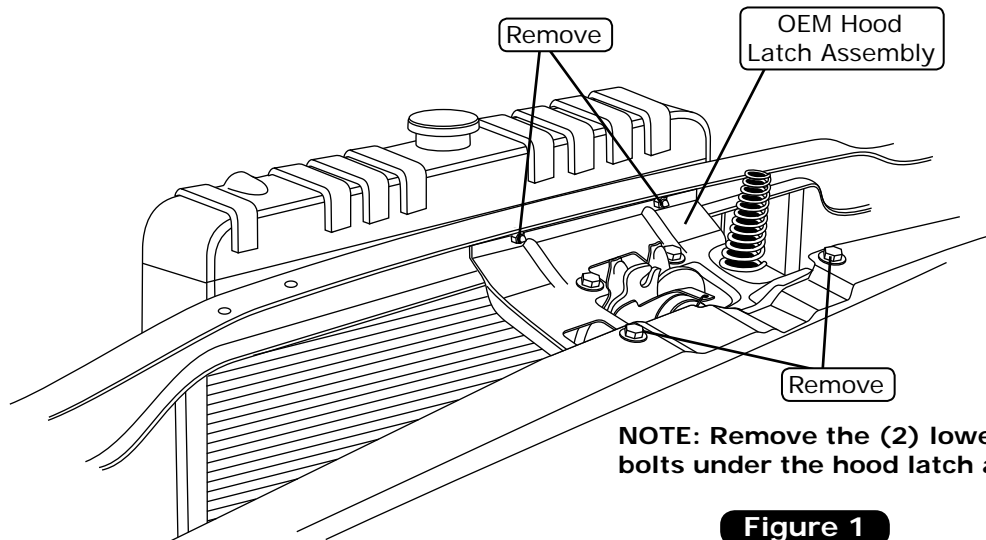

Figure 1
1. Remove the (4) OEM radiator mounting bolts (retain) (See Figure 1, below).